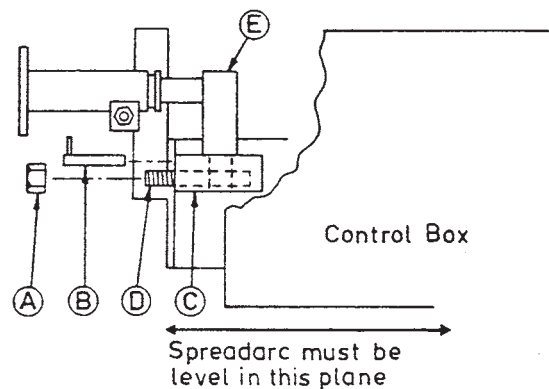

Figure 1
2. Remove the hex nut (A) and the support pin (B) from the Spreadarc mounting block (C). With the draw bolt (D) properly in place, mount the Spreadarc to the head support or vertical lift (E). Maintain support until the support pin (B) is inserted into the mounting block (C), and install hex nut (A) on draw bolt (D). Rotate the Spreadarc until it is perpendicular to the travel carriage beam and tighten hex nut (A). Make certain that travel carriage beam or stationary mounting is properly squared up. The Spreadarc must be level in the horizontal plane within  $\pm 2^\circ$  (see Figure 1).